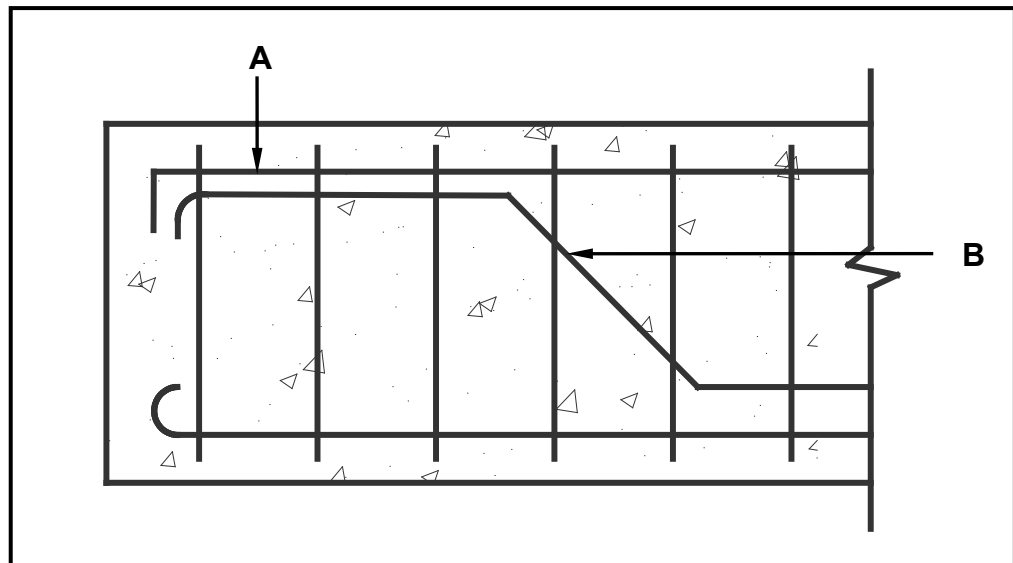

FIGURE 2.10
- 2.10 FIGURE 2.10 below shows an incomplete sectional view of a reinforced beam.